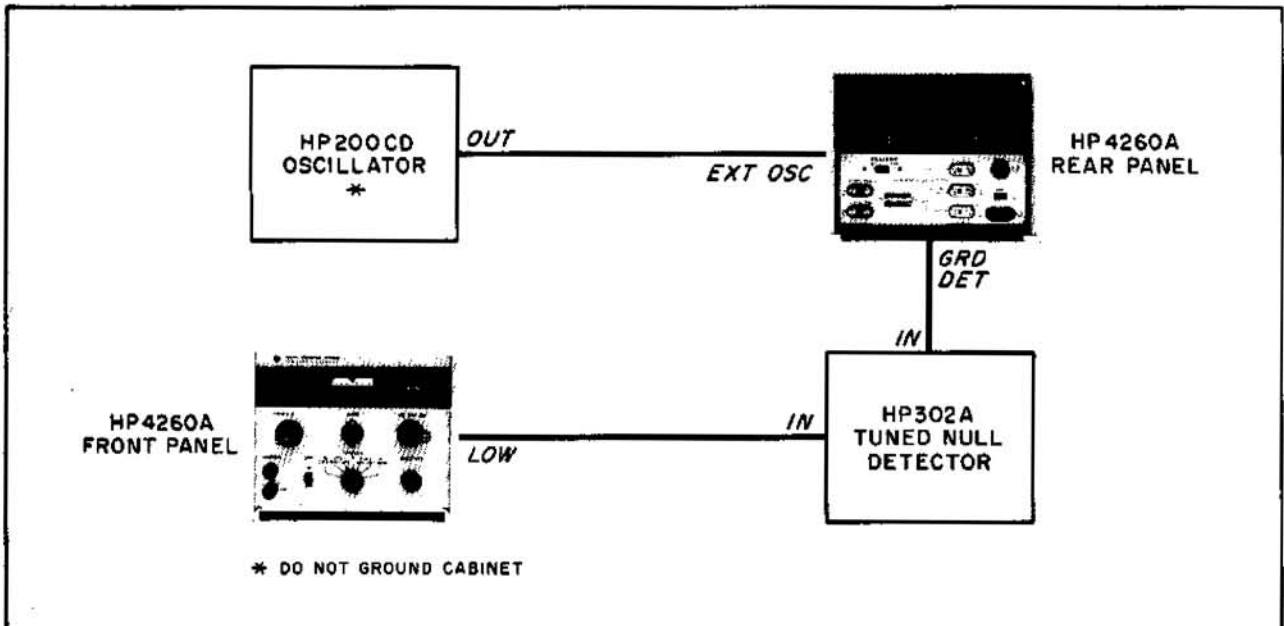

Figure 3-3. Operation with External Generator
**3-47.** For impedance measurements at frequencies other than 1 kHz (between 20 Hz and 20 kHz), connect the external oscillator and associated equipment as shown in Figure 3-3 and proceed.
b. Set external oscillator output voltage to minimum and connect to EXT. OSCILLATOR terminals (see Figure 3-3).
Bridge null can be obtained using a tuned null detector with less than 90 dB gain connected to the DETECTOR terminals. (The DETECTOR terminals are connected to the output of the internal pre-amplifier.) For most accurate and sensitive measurements, the method shown in Figure 3-3 is recommended.